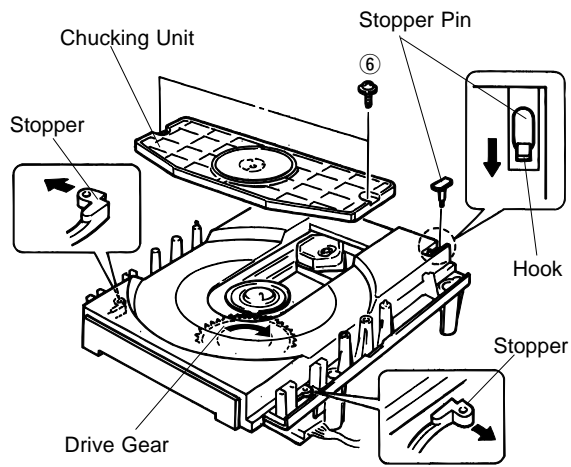

Fig. 3
- a. Remove 2 screws ( ⑥ ) and then remove the Chucking Unit in Fig. 3.
- b. Remove 1 hook and then remove the Stopper Pin in Fig. 3.
- c. Rotate the Drive Gear and then open the Tray Unit in Fig. 3.
- d. Detach the Stoppers on both sides and then pull out the Tray in Fig. 3.